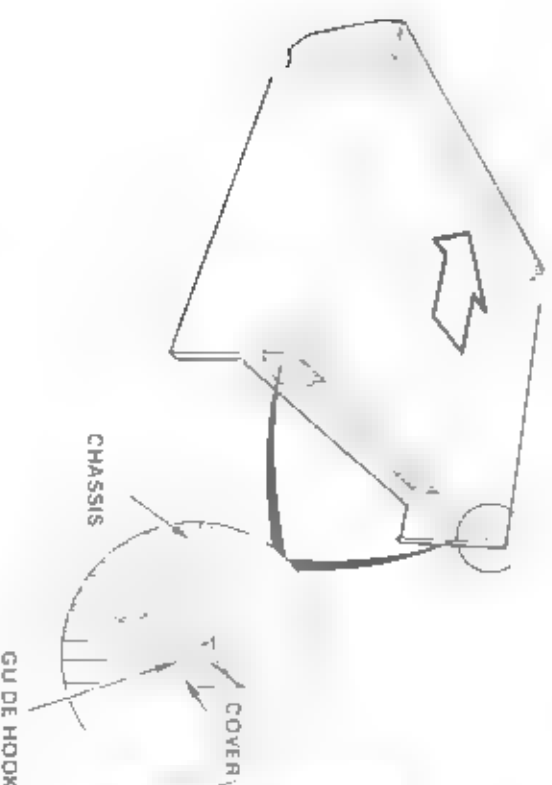

Figure 3-10 Replacing the System Unit Cover
3. Holding both sides of the cover, lower it onto the chassis and slide it gently forward. Make sure the lip on the front edge of the cover is inside the front panel and the guide hooks on the rear corners of the cover fit into the slots in the chassis, as shown in Figure 3-10.